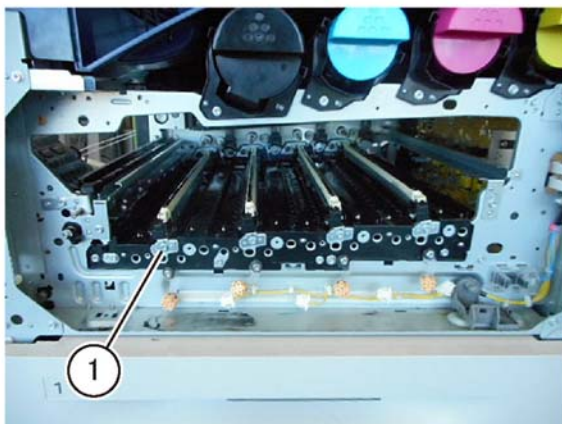

Figure 2 LPH (K) screw
7. LPH (Y) Only: Remove the right cover, REP 28.3.
8. LPH (Y) Only: Remove the HVPS, REP 1.1.
9. Remove the screw (1) that secures LPH (K), Figure 2.